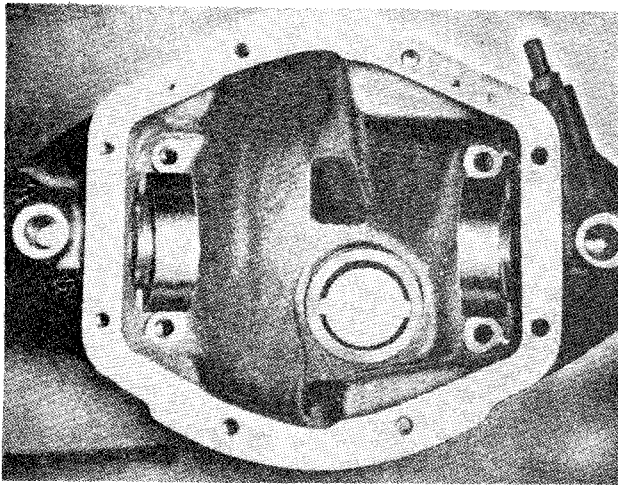

**Fig. 21**
- (iv) Although the packing shims are supplied to nominal thicknesses, the dimensions should be measured with a micrometer gauge. It is important that no damaged shims are used and that they are thoroughly cleaned before measurement. (Fig. 21.)